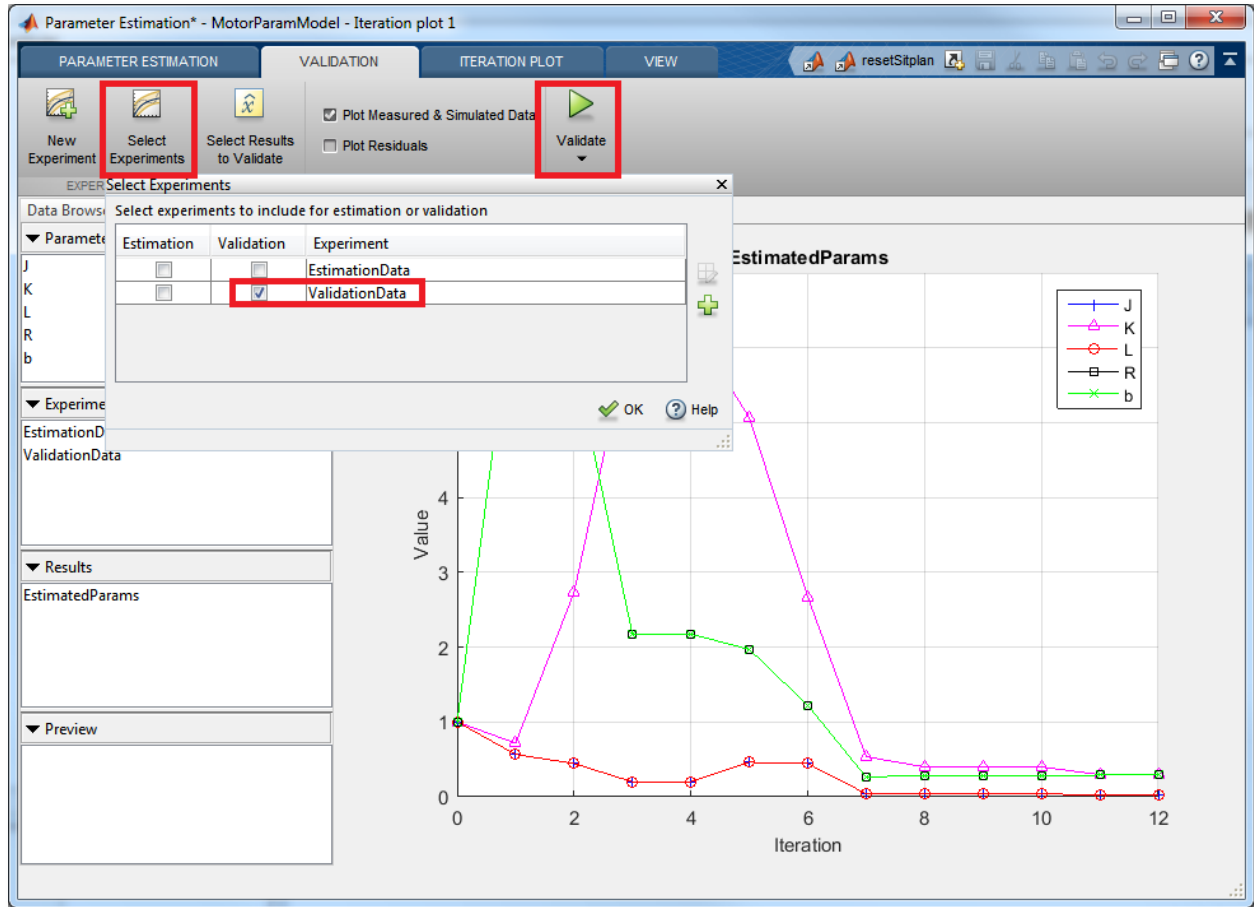

Figure 39 - Parameter Estimation Tool – Validation
- Next, navigate to the **'Validation'** tab. Click 'Select Experiments', check 'ValidationData' check box under 'Validation' and click on **'Validate'** as shown in Figure 39.